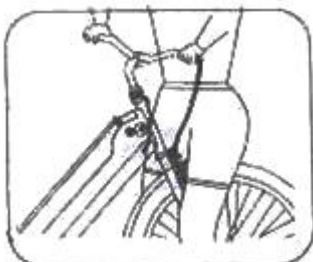

Figure FS2
- **Handle-stem and handle-bar:** Is stem aligned with front wheel? Walk to front of bike, put front wheel between your legs (Figure FS2.) Check if the wheel and stem are aligned straight. Try to twist the handle-bar left and right. The handlebar should not be loose and shouldn't move if moderate force is applied. Make sure that all cables are not stretched and that there is enough slack for all cables when turning handle-bar. Make sure the wheel can be turned freely without entangling wires. The ends of the handle-bars need to be covered, usually by a handle-grip to protect from cuts in a crash. Apply front brake and move bike forward and backwards. Is fork loose? If it is loose the headset needs to be adjusted.